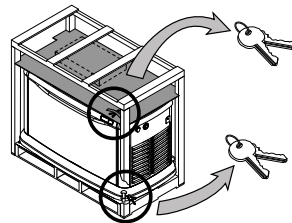

Figure 2-2. Keys As Shipped
3. See Figure 2-2. Lid will be locked. A set of keys is attached to the cardboard sheet on top of unit. An additional set is attached to the pallet bracket on the front intake end of unit. Remove keys from cardboard and pallet bracket.